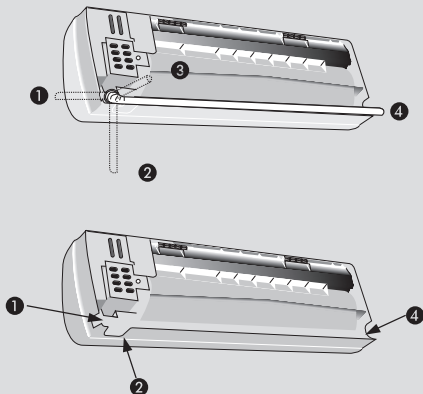
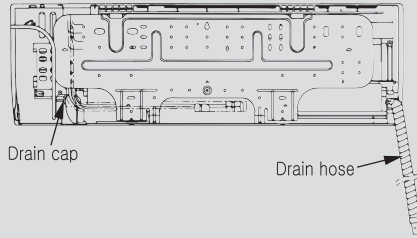

Figure 3
Figure 9
- The piping can be connected to the four directions indicated by ①, ②, ③, ④. When the piping is connected to the direction of ①, ② or ④, detach the knock-out either at the side or at the bottom of the unit. ( Fig. 3 )
- Drain hose and drain cap are assembled as shown in figure 9 in the factory. To do right-side(①), right-bottom(②) or right-back(③) piping in figure 3, draw the drain hose to right-side piping direction.(It is not necessary to exchange the location of drain hose and drain cap.)